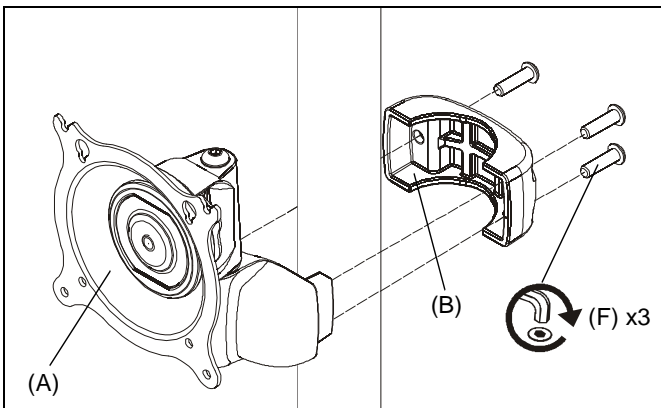

Figure 1
1. Place head assembly (A) against pole in desired position.
2. Align back casting (B) with head assembly (A) and push together around pole. (See Figure 1)
3. Secure back casting (B) to head assembly (A) using three 1/4-20 x 7/8" button head cap screws (F) and hex wrench provided. (See Figure 1)